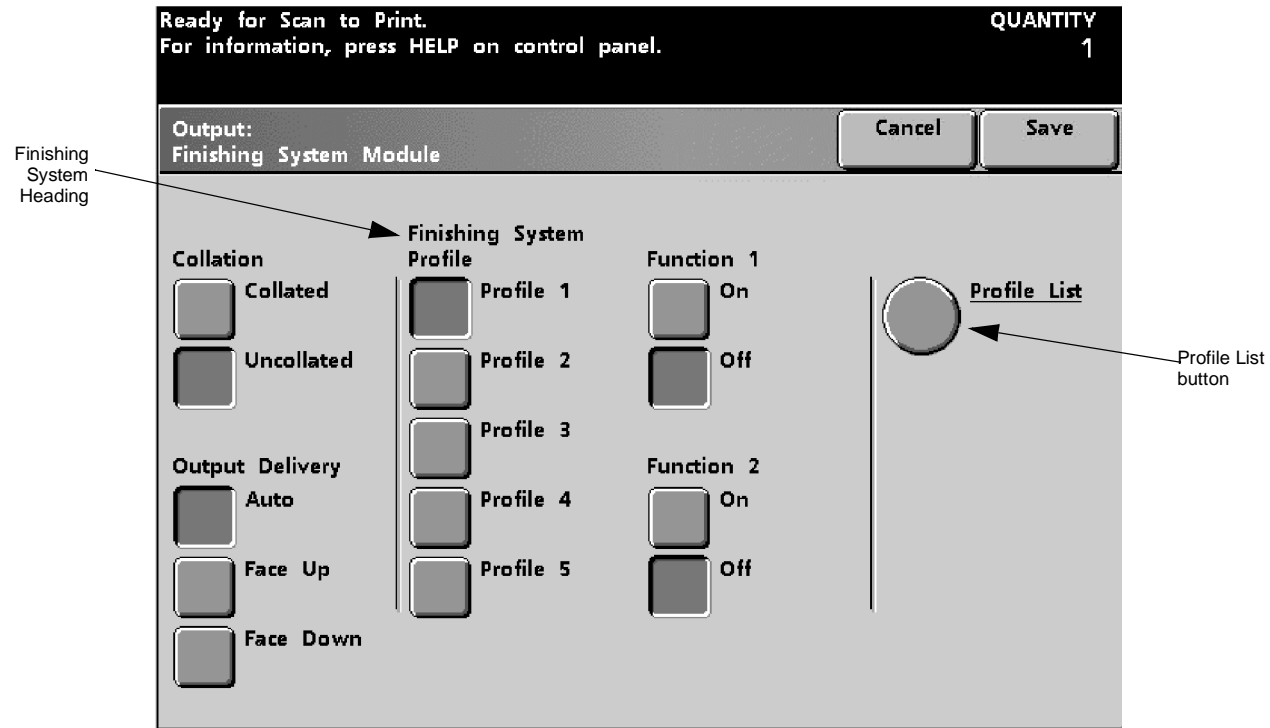

Figure 6-50 The Settings Screen
The **Setting** Screen will be displayed, as shown in Figure 6-50.
5. To change the profile to be used, click one of the profile options under the **Finishing System Profile Heading**, as shown in Figure 6-50.
6. To view the profiles, click the **Profile List** button, as shown in Figure 6-50.